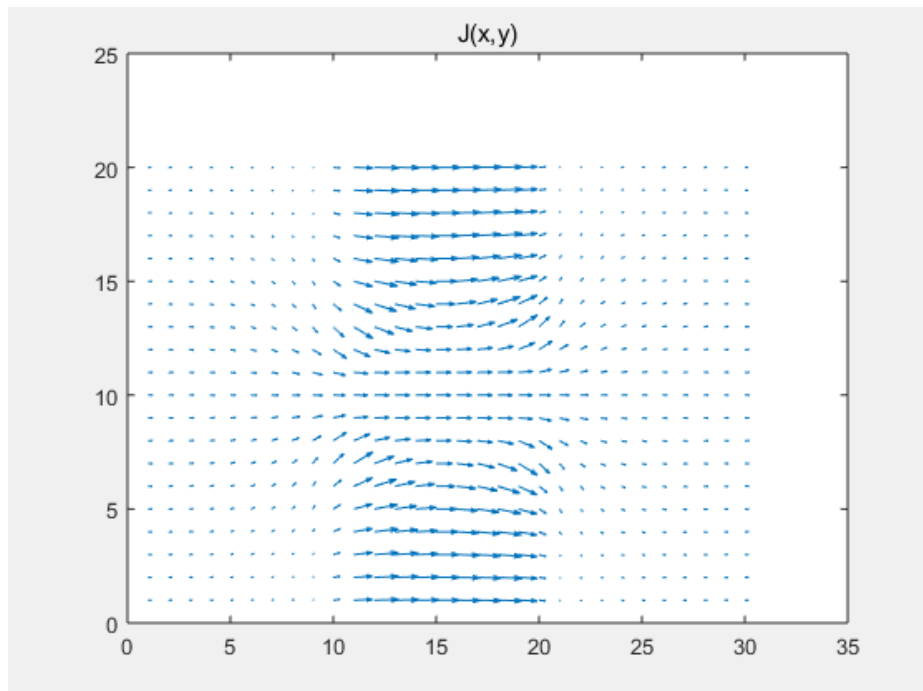

Figure 8: $J(x,y)$
- Plot for J(x,y) is shown in Figure 8.